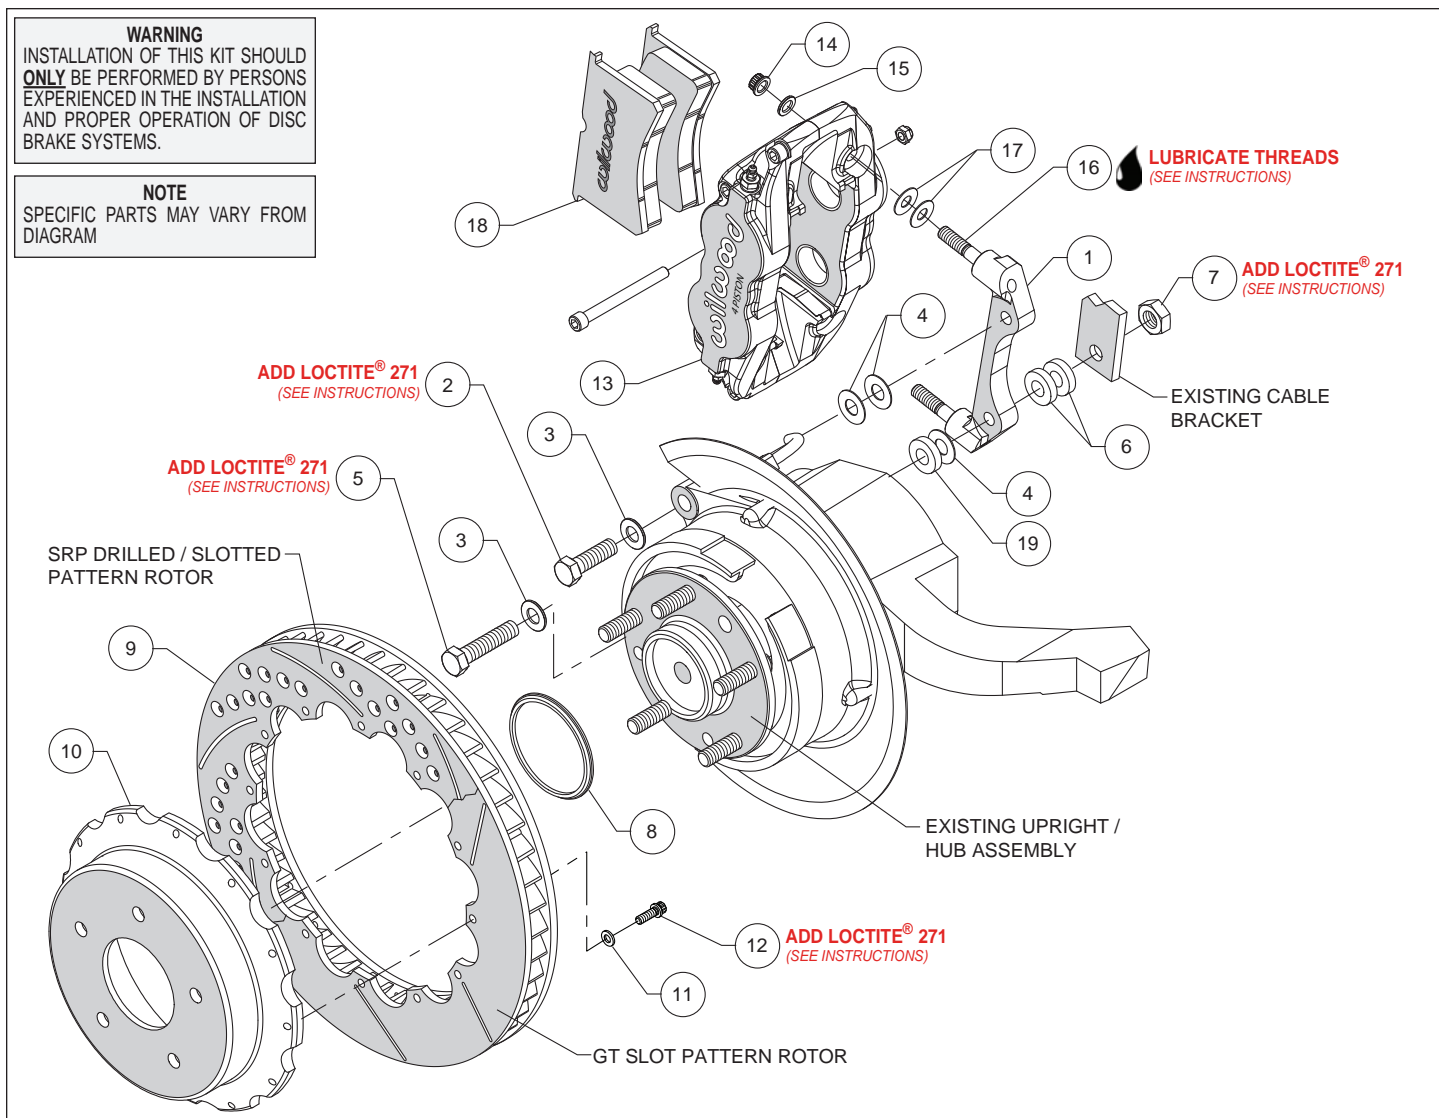
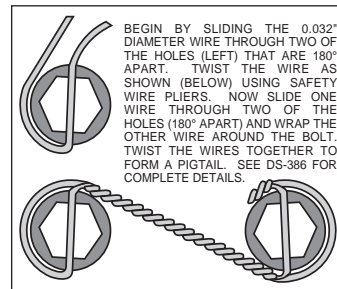

Figure 1. Typical Installation Configuration
Figure 3. Safety Wire Diagram
**Assembly Instructions** (numbers in parenthesis refer to the parts list and Figure 1 on the preceding pages):
• The caliper mount bracket (1) should initially be installed with clean, dry threads on the mounting bolts. Orient the bracket as shown in Figure 1, and install using bolt (2), washer (3) and two shims (4) for the top mounting hole. Secure the bottom of the bracket using bolt (5), washer (3), .145 thick spacer (19), and one shim (4) as shown in Figure 1 and Photo 1. Temporarily tighten the mounting bolts. **NOTE:** *The bracket must fit squarely against the mount bosses on the upright.* Inspect for interference from casting irregularities, machining ridges, burrs, etc. Later, after the caliper alignment has been checked, the mount bolts will be secured using red *Loctite*® 271.
• Orient the rotor (9) and the hat (10) as shown in Figure 1 and Photo 2. Attach rotor to hat using bolts (12) and washers (11). Using an alternating sequence, apply red *Loctite*® 271 to the threads, and torque to 140 **in-lbs**. For an added measure of security, the bolts may be safety wired using standard 0.032 inch diameter stainless steel safety wire as shown in Figure 3. Please refer to Wilwood's data sheet DS-386 (available at [www.wilwood.com/Pdf/DataSheets/ds386.pdf](http://www.wilwood.com/Pdf/DataSheets/ds386.pdf)) for complete safety wire installation instructions.
• Lubricate the caliper mounting studs (16) with lightweight oil. Initially place two .035" thick shims (17) on each stud as shown in Figure 1 and Photo 4. Mount the caliper (13) onto the bracket (1) using lock nuts (14) and washers (15), Figure 1 and Photo 5. Temporarily tighten the lock nuts and view the rotor through the top opening of the caliper. The rotor should be centered in the caliper, Photo 6. If not, adjust by adding or subtracting shims (4)